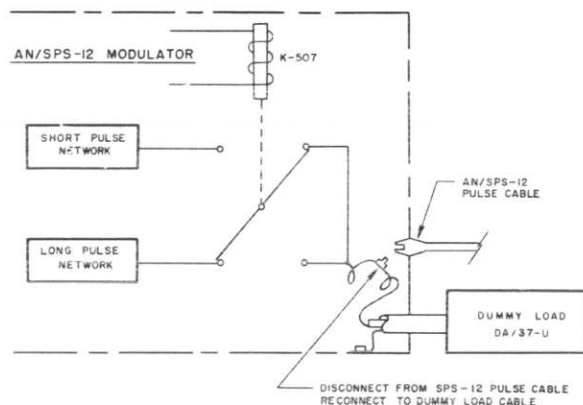

FIGURE 2
4. Isolation of components within the modulator can be obtained as indicated in figures 2 and 3.